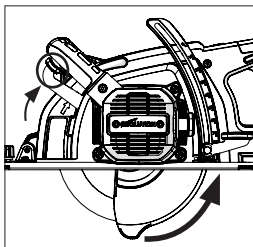

Fig. 18
Note: The lower blade guard is designed to be pushed (rotated) out of the way at the start of a cut by lifting the blade guard retraction lever (6) to start this rotation may help when cutting certain materials. **(Fig.18)**